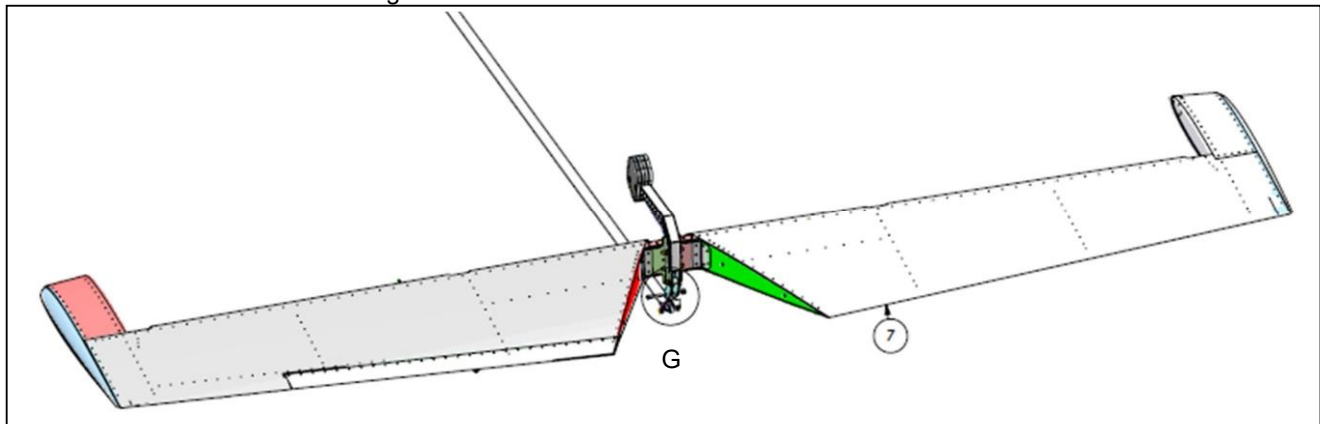

Figure 29
- Step 13. The last eyebolt that needs to be inspected and replaced is the one connected to the elevator horn, located in detail G of Figure 29.